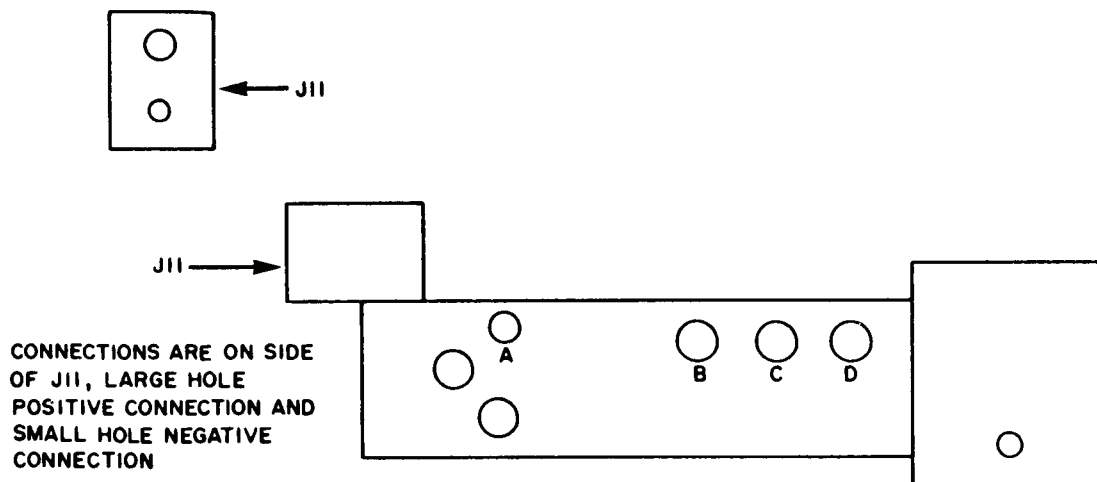

Figure 2. J11 Connection location on receiver alignment test receptacle.
(1) Disconnect dc power supply from **XMTR BAT**, and connect to **INTERNAL BATTERY** observing polarity.
(2) Disconnect multimeter from resistance standard and connect to dc power supply.
(3) Disconnect resistance standard from **XMTR ALIGN** connection and connect to J11 (large hole positive and small hole negative) (fig. 2).
(4) Set resistance standard to 4900 Ω.
(5) Set **FUNCTION** switch to **RCVR OSC**.
(6) Adjust dc power supply for a 10 V indication on multimeter.
(7) Disconnect multimeter from dc power supply and connect across resistance standard. Multimeter will indicate greater than 5.6 V dc.